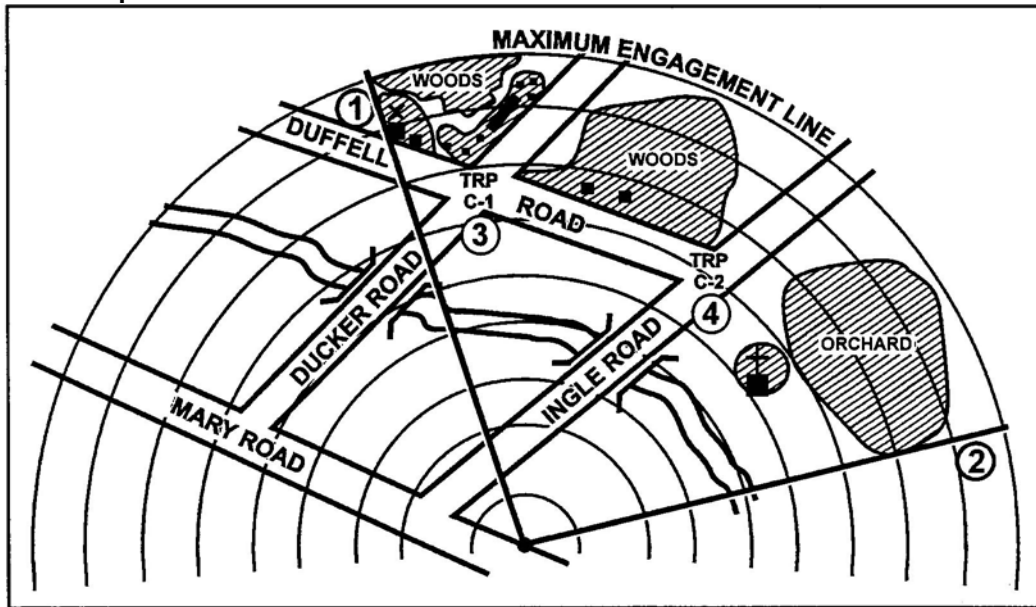

Figure 6. Dead spaces.
- e. Dead spaces. Place diagonal lines, or the words "dead space," where significant dead space occurs (Figure 6).